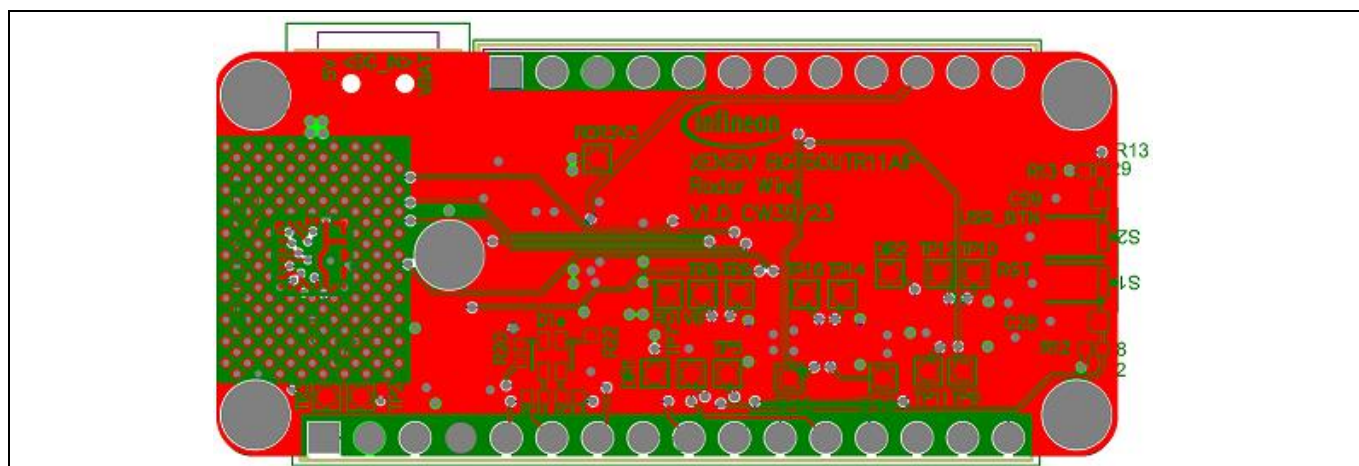

Figure 27 PCB layout of XENSIV™ BGT60UTR11AIP Radar Wing board
The size of the XENSIV™ BGT60UTR11AIP Radar Wing board is 43 mm (L) x 23 mm (W), as shown in Figure 27.